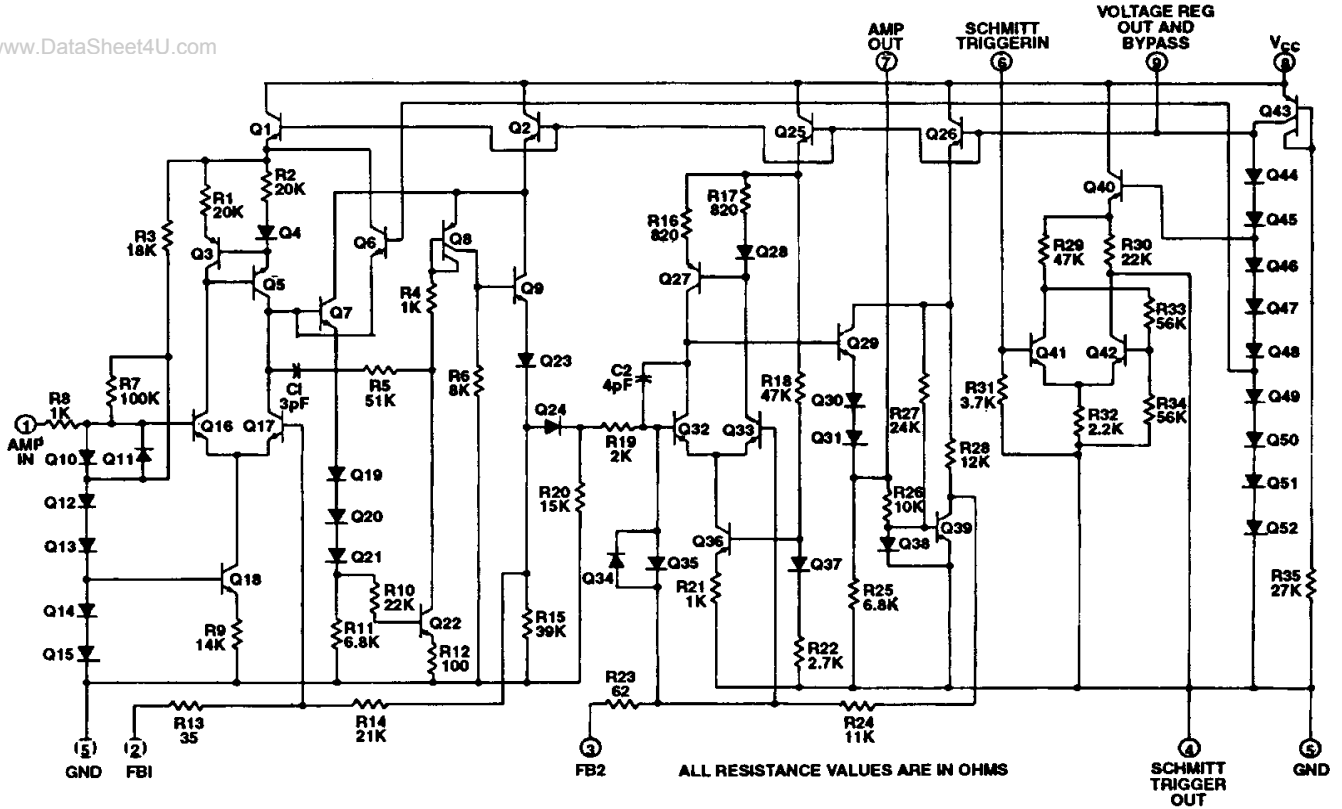
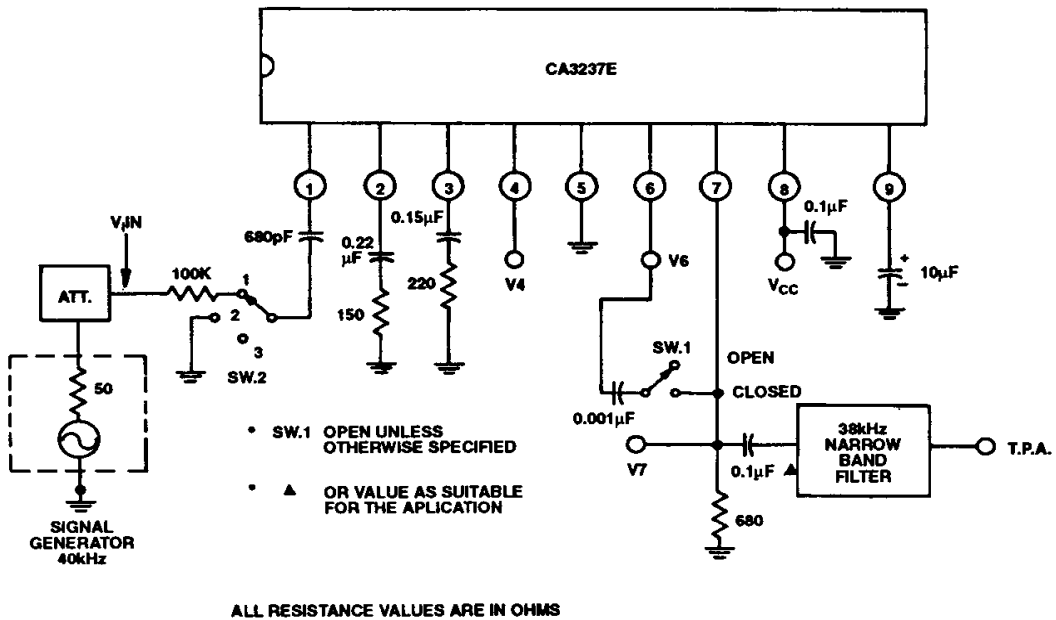

FIGURE 1. SCHEMATIC DIAGRAM FOR CA3237
FIGURE 2. TEST CIRCUIT FOR CA3237
### Electrical Specifications $T_A = +25^\circ\text{C}$ , $V_{CC} = 12\text{V}$ , Unless Otherwise Specified. See Figure 2 for Test Circuit
The CA3237 is intended for use in an infrared (IR) remote-control receiver or other comparable application. As shown in Figure 1, this IC consists of two cascaded amplifiers, a Schmitt-trigger circuit, and an internal 6.3-volt regulator. The VCC power-supply input may range from 8 to 14 volts.
For the feedback circuit values in the test circuit of Figure 2, the simplified gain equation may be used to calculate the first stage gain as follows:
The worst-case conditions allow for  $Z_{in}$  and  $A_{OL}$  variations. The gain specification from the Electrical Characteristic table is 0.8V for 500 $\mu$ V input. This specification dictates a minimum gain of 1600 (or 64dB) minimum, including input attenuation losses due to the 100-kilohm source resistor. The Figure 2 circuit is specified as a test condition, but is not a limited use of the CA3237. Using circuit layout care and some shielding, it is possible to achieve over 90dB of stable gain.
If the source impedance of the signal source is high compared to the input impedance of the amplifier, there will be a proportional attenuation at the input signal. For the Figure 2 test circuit, the source impedance is 100 kilohm and the input loss is typically 9dB.
The output drive signal from the second amplifier (at pin 7) is from the emitter follower Q29 and series Q30 and Q31, shown in Figure 1. As shown in the test circuit of Figure 2, it is possible to stiffen the source impedance by additional dc loading at pin 7. It is recommended that the output load be greater than 500 $\Omega$ .
The amplifiers are designed to provide signal limiting over a wide dynamic range with little effect on the duty cycle. In the IC circuit diagram of Figure 1, the Q10 and Q11 back-to-back diodes limit the peak-to-peak drive; additional control is provided by the Q6 emitter at the output of the first differential stage. Limiting starts as low as 50 $\mu$ V. The limiting range continues to a level greater than 1 volt of signal-input capability with typically less than 10% change in duty cycle.
It is important to note that the Schmitt trigger input has 3.7 kilohm input impedance but drops to a much lower value when the input transistor switches to saturation. The low impedance provides noise immunity during the low (OFF) state. In Figure 1, transistor Q41 and Q42 form the differential switching circuit. The threshold for switching at pin 6 is approximately 1 volt (ON) and 0.8 volt (OFF). The bias supply for the switching differential is determined by the internally regulated supply, which is tapped at 4.2 volts on the stack of reference diodes.